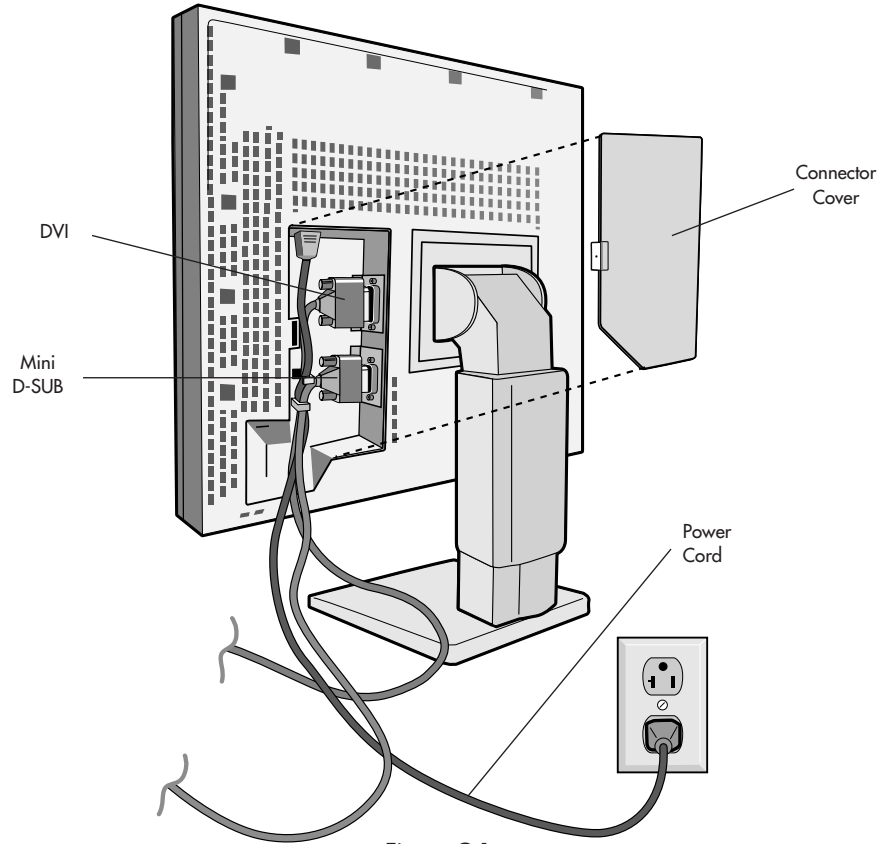

Figure C.1
3. Remove connector cover. Connect the DVI signal cable to the connector on the back of the monitor. Connect the 15-pin mini D-SUB signal cable (not included) to the connector on the back of the monitor. Place the video signal cable (**Figure C.1**).
4. Connect one end of the power cord to the AC inlet on the back of the monitor and the other end to the power outlet (**Figure C.1**).